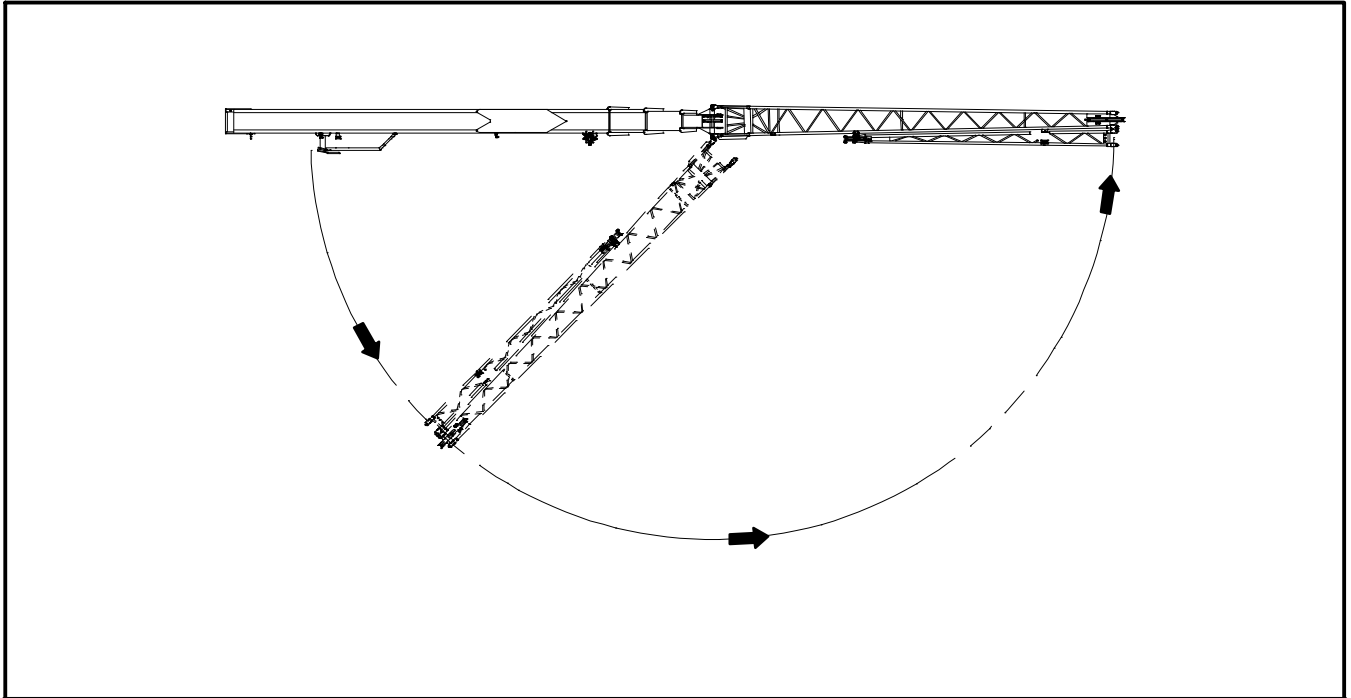

Figure 4–136
13. Pull the retaining pin (2) to disengage the retaining pin from the bullet lug (1) on the 28 ft (8.5m) fly storage bracket. Refer to Figure 4–135. Rotate and release the retaining pin to lock it in the disengaged position (3).
16. Continue to lower the boom to 0° angle to swing the fly base and tip around the boom head until the fly lugs engage with the boom head machinery cross shafts on the left side of the boom. Refer to Figure 4–136.